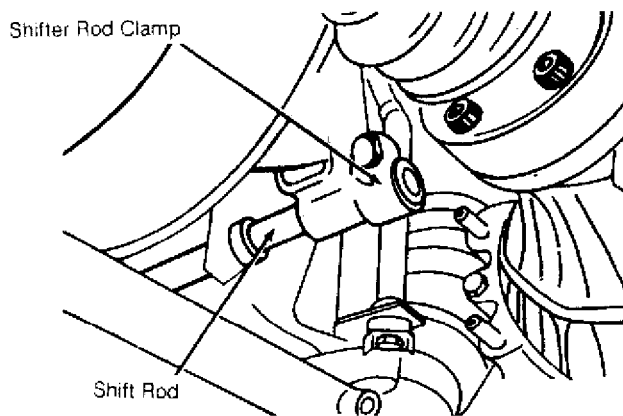

Fig. 7: Loosening Shift Rod Clamp (Golf, GTI, & Jetta)
1) Place shift lever in Neutral position. Ensure transaxle is also in Neutral. Loosen lower shifter rod clamp. See Fig. 7. Selector lever must move freely on shifter rod.